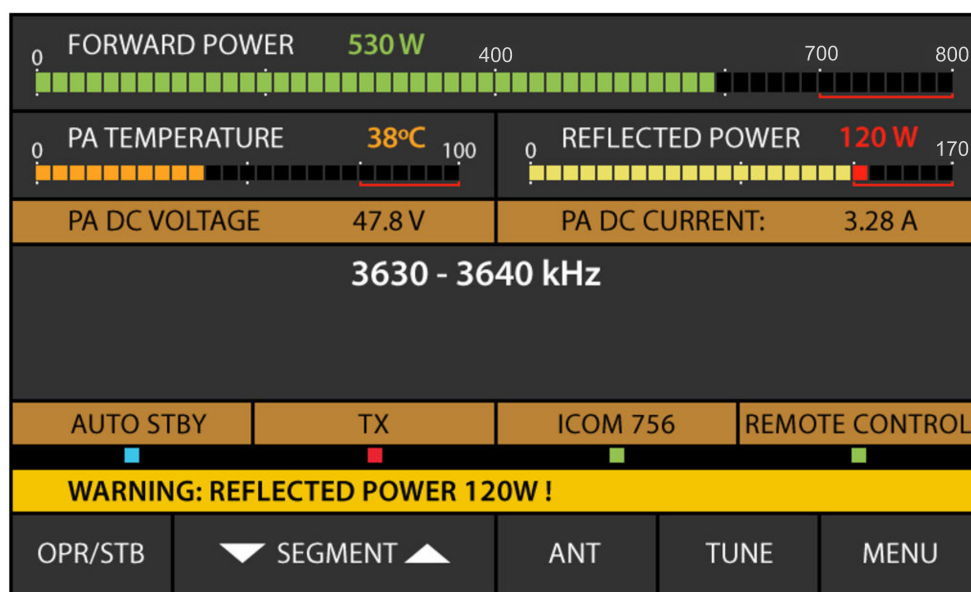

Fig. 4-1 – Appearance of an alarm message
In the event a parameter maximum is exceeded, the amplifier will assess the risk and will trigger one of the three levels of protection, as described in items (a) to (c) below. Every event is accompanied by a warning text on the screen (Fig. 4-1). A sound alarm will be also produced, if set on in the “USER PREFERENCES”– fig. 5-4.
- a) The first protection level is WARNING. When a value watched by the control unit approaches the protection threshold, the transmission is not interrupted, but a message appears – for example “Drive Power too High”, “Drain Current too High”, or another – Fig. 4-1.